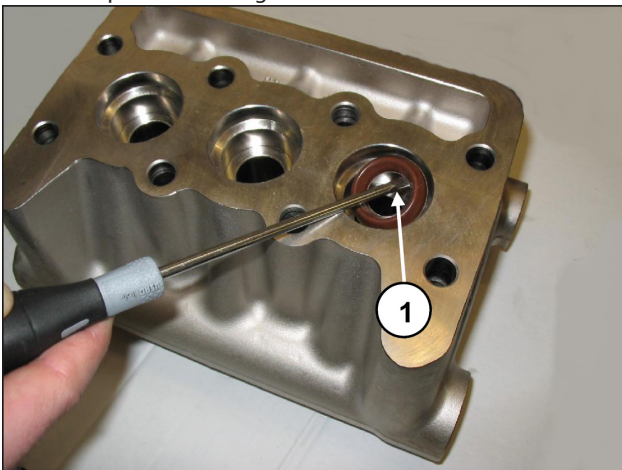

Fig. 30
C) Extract the high pressure seals from the head and the low pressure ones from the support, using simple tools as indicated in Fig. 30, pos. ① being careful not to damage the respective housings.